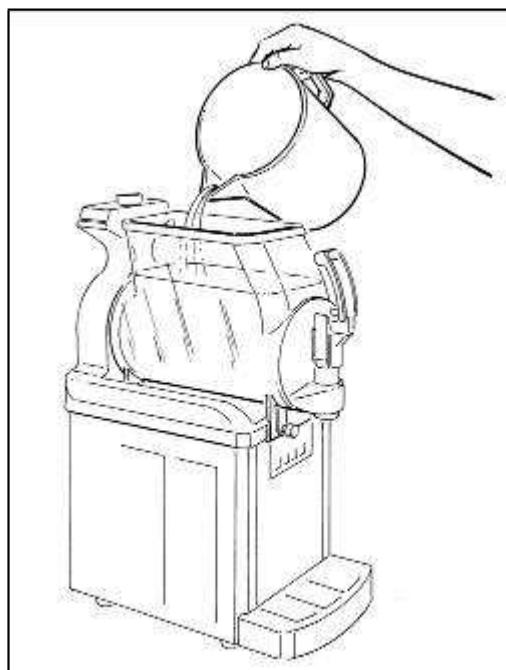

Рис. 5
- Pour the mix obtained into the bowl (see Рис.5).